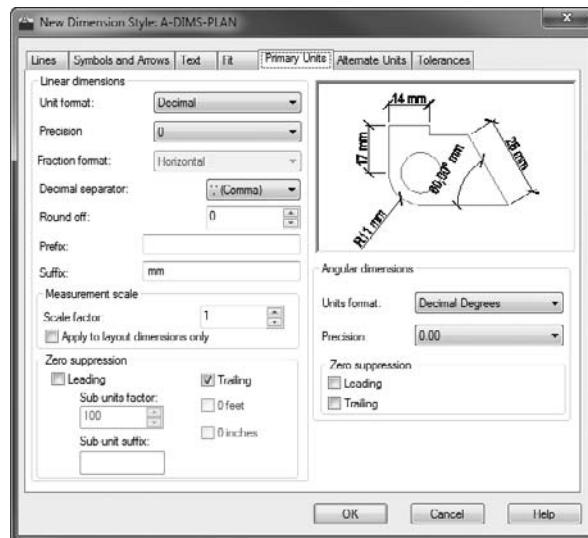

FIGURE 12.10 The Primary Units tab after changes have been made using metric units
1. Click the Primary Units tab, and take a peek ahead at Figure 12.10 to see how it's organized. It has two areas: Linear Dimensions and Angular Dimensions, each of which has several types of settings.
After these changes, the Primary Units tab looks like Figure 12.10.